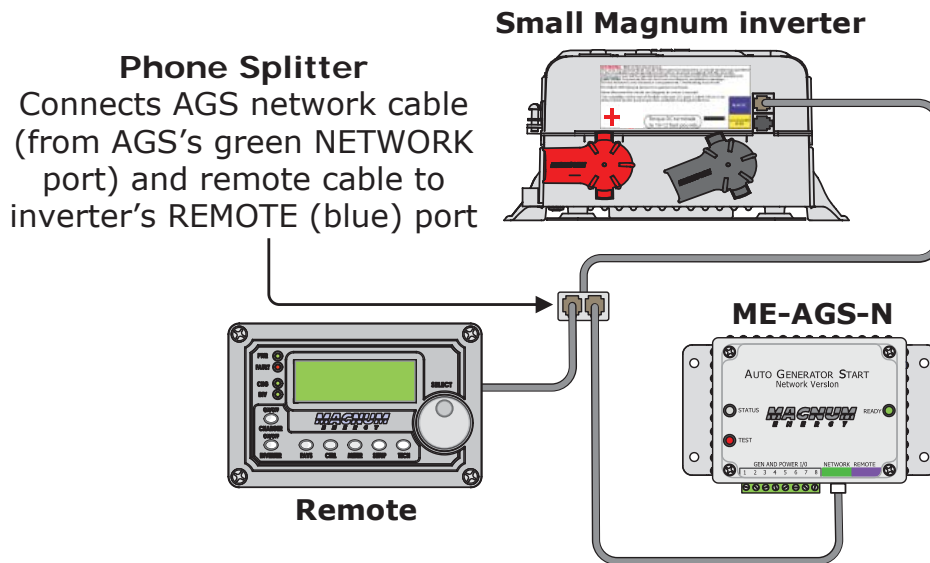

Figure 2-5, Connecting an AGS to an Inverter (Small)
- Small inverter (MM/MMS Series)** – Connect one end of the communications cable to the AGS's RJ14 NETWORK (green) port. Connect the other end of the communications cable to a phone splitter, and then connect the splitter to the Remote (blue) port on the inverter (see Figure 2-5).